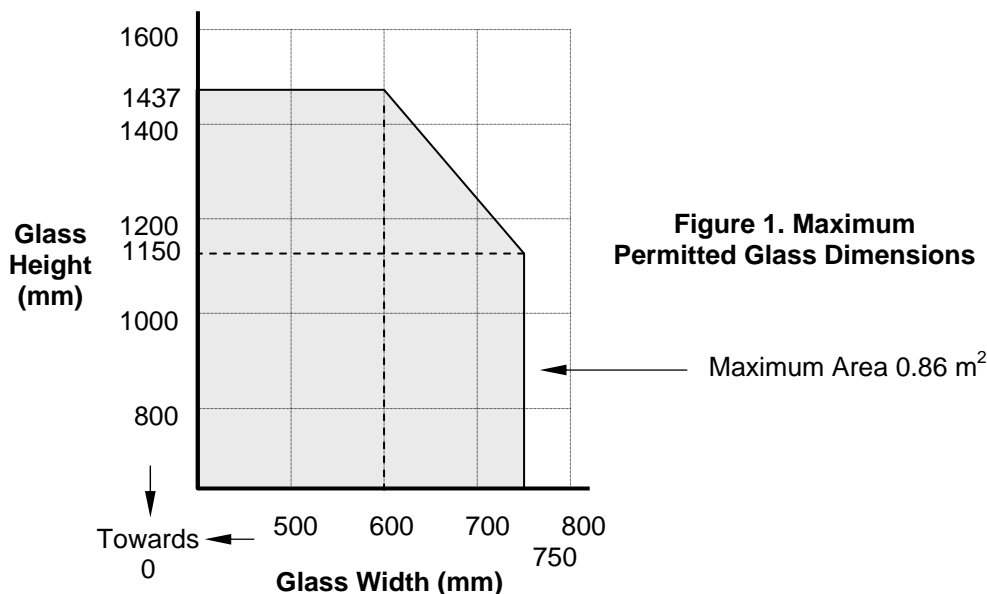

Figure 1. Maximum Permitted Glass Dimensions
- ① ESG PYROTECH™ 630 glass (edge of glass wrapped with Aluminium foil) or laminate construction utilising combinations of approved ESG PYROTECH™ Fire Resistant Glass, bonded together with interlayer(s). See Table 1 for LPS 1270, EN 356 and ballistic security glazing panel references.
- ② Hodgson Sealants Firestrip/Lorient System 36 range/Lorient Flexible Figure 1/ISL Therm-A-Strip/ Pyroplex 8193 U Channel/Sealmaster FireGlaze/Mann McGowan Pyroglaze 30/Mann McGowan Pyrostrip 30/Mann McGowan Pyroglaze Channel/Pyroplex 30049/Pyroplex 30054.
- ③ 15mm high, X 22mm long (chamfered by 15°) softwood, MDF or hardwood glazing beads, minimum density 510 kg/m³. The beads shown in the drawing can be extended in width to form a bolection bead.
- ④ 40 mm long Ø1.5 mm steel pins at 150 mm centres and 50 mm from corners (35° to glass).
- ⑤ Optional non-combustible setting blocks (not required).
- ⑥ 90 mm by 40 mm (minimum) hardwood framing sections, minimum density 640 kg/m³.
This Certificate of Approval relates to the sizes of ESG PYROTECH™ glass shown in Figure 1 below, when used in conjunction with the above system. The maximum permitted overall screen height is 4000 mm.